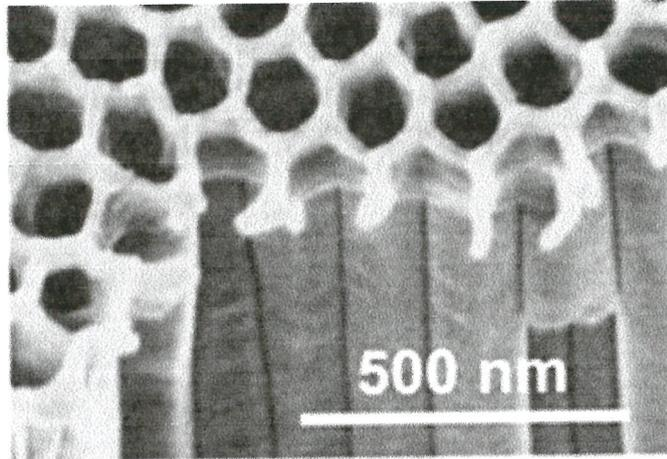

Figure Q3: TiO_2 nanotubes.
- (e) Discuss the surface morphology of the TiO_2 nanotubes as shown in **Figure Q3**.